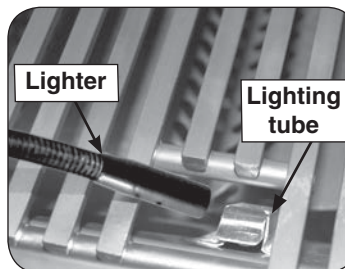
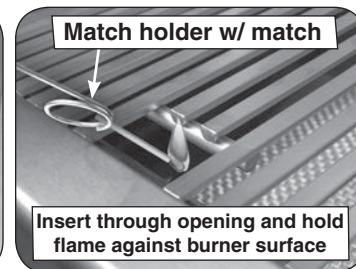

Fig. 25-2 Manual lighting via lighting tube
Fig. 25-3 Manual lighting via match holder
2. Insert either a burning long-barrel butane lighter or a burning long-stem match through the cooking grid opening to the top of the lighting tube. (Fig. 25-2). For backburners or infrared burners, hold the flame against the surface of the backburner/infrared burner. For charcoal burners, hold the flame near the burner. Grills equipped with an infrared burner include a wire extension match holder (attached to drip tray) to assist with manual lighting (Fig. 25-3).
4. If the burner does not light within five (5) seconds of turning the control knob, **immediately depress the knob and turn the valve to OFF**. **WAIT FIVE (5) MINUTES** before repeating steps 2 through 4 of the MANUAL LIGHTING instructions.